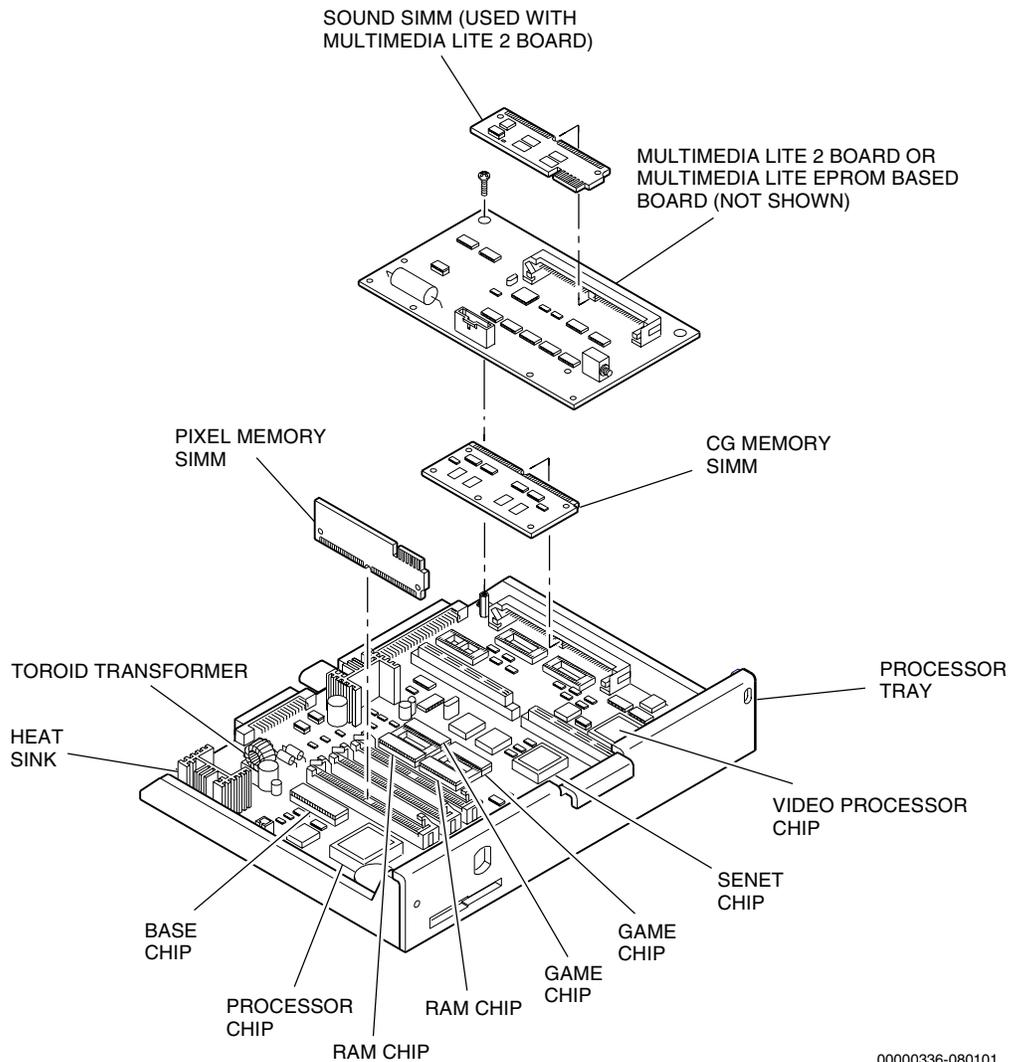

Figure 4-1. Processor Board Component Locations
The integrated circuit (IC) chips intended for field replacement are the game and character generator EPROMs shown in Figure 4-1 on page 90. Most other ICs are soldered into place.
See Figure 4-1 on page 90 and refer to the following instructions to remove IC chips from the processor board.
To install IC chips on the processor board, see Figure 4-1 on page 90 and proceed as follows.
The sound SIMM board contains the game sounds used in machines with stereo sound (refer to Figure 4-1). Each board is individually programmed for a specific game theme.